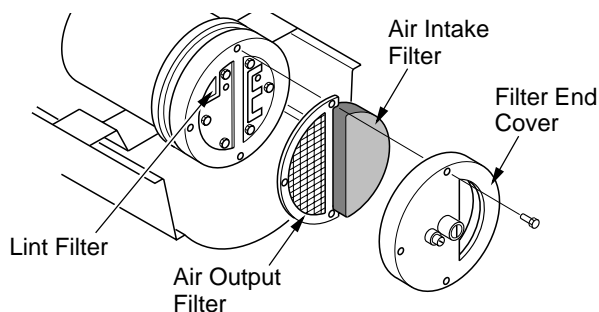

Figure 11 - Air Output, Air Intake, and Lint Filters, 40/55/60/70 Models Only
2. Remove filter end cover screws using 5/16" nut-driver (see Figure 11 or 12).